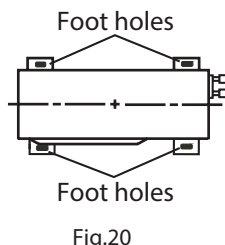

Fig.20
2. Fix the foot holes of outdoor unit with bolts.(As show in Fig.20)